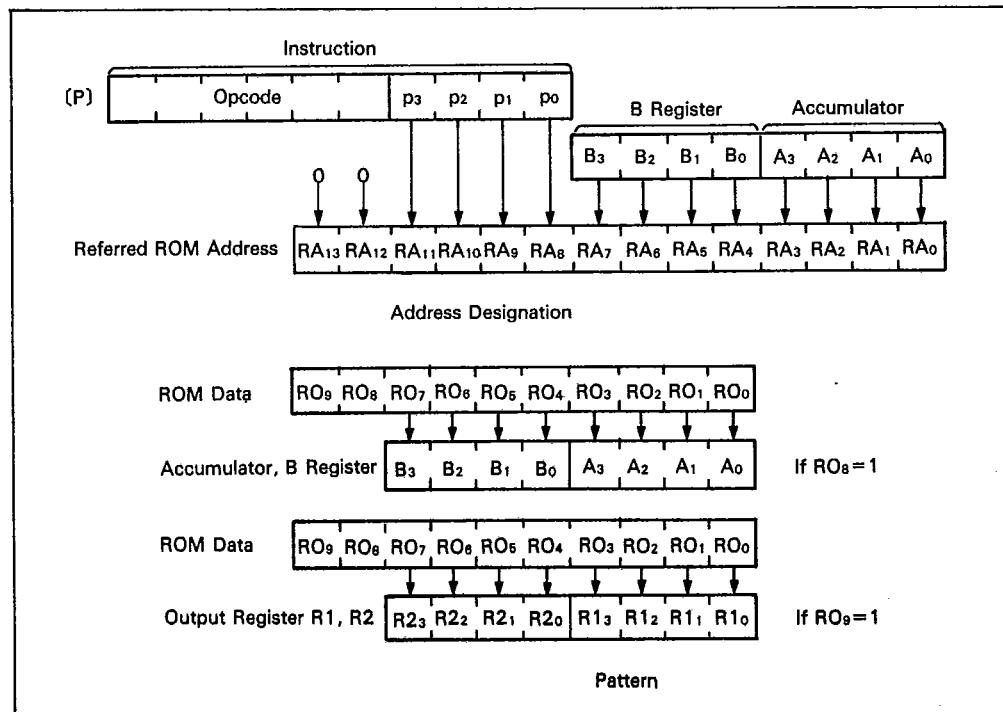

Figure 29. P Instruction
**P Instruction:** ROM data addressed by table data addressing can be referred to by a P instruction (figure 29). When bit 8 in the referenced ROM data is 1, 8 bits of ROM data are written into the accumulator and B register. When bit 9 is 1, 8 bits of ROM data are written into the R1 and R2 port output register. When both bits 8 and 9 are 1, ROM data are written into the accumulator and B register and also to the R1 and R2 port output register at the same time.